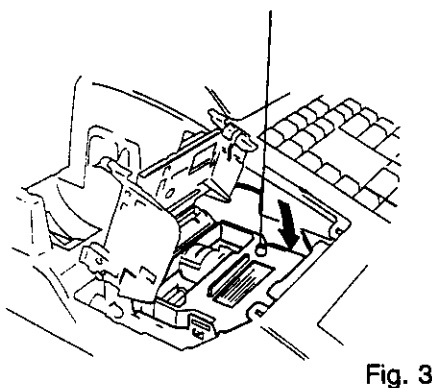

Fig. 3
4. Install a new Ribbon Cartridge in the reverse order to Step 2 above (Fig. 3).